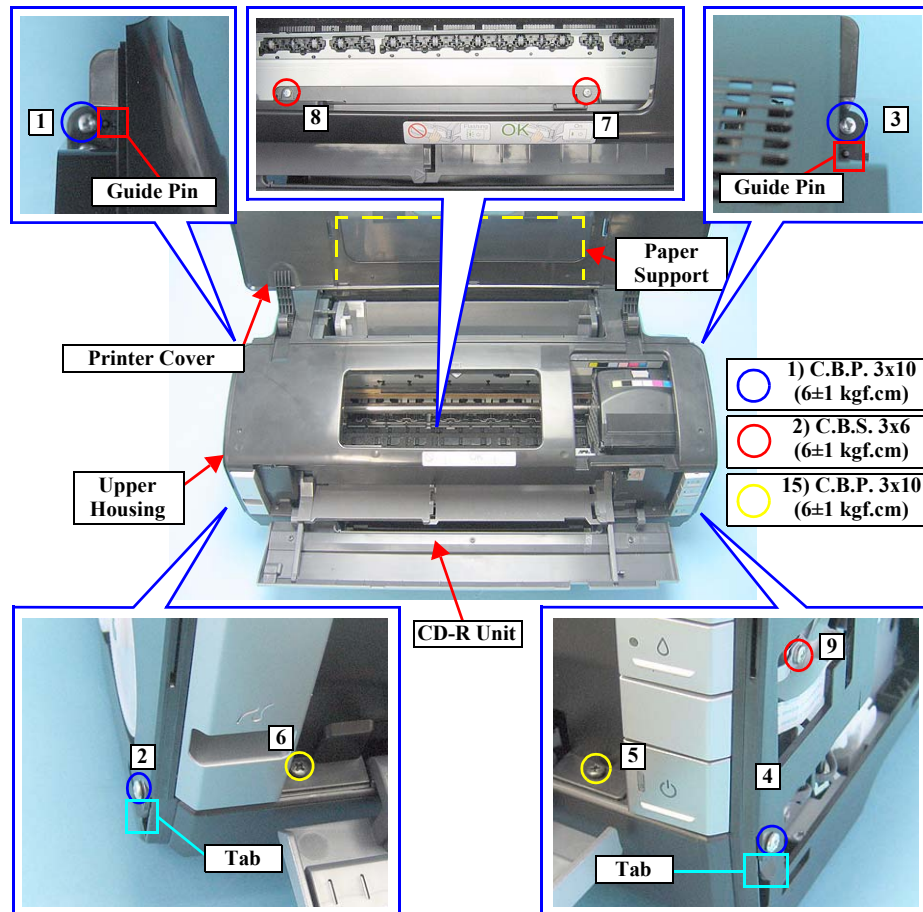

Figure 4-11. Screws that Secure the Upper Housing
6. Remove the Guide Pins from the two tabs shown in Figure 4-11, and remove the Upper Housing upwards.
- Align the Guide Pins with the positioning holes of the Upper Housing. See Figure 4-11.
- Tighten the screws in the order shown in Figure 4-11.